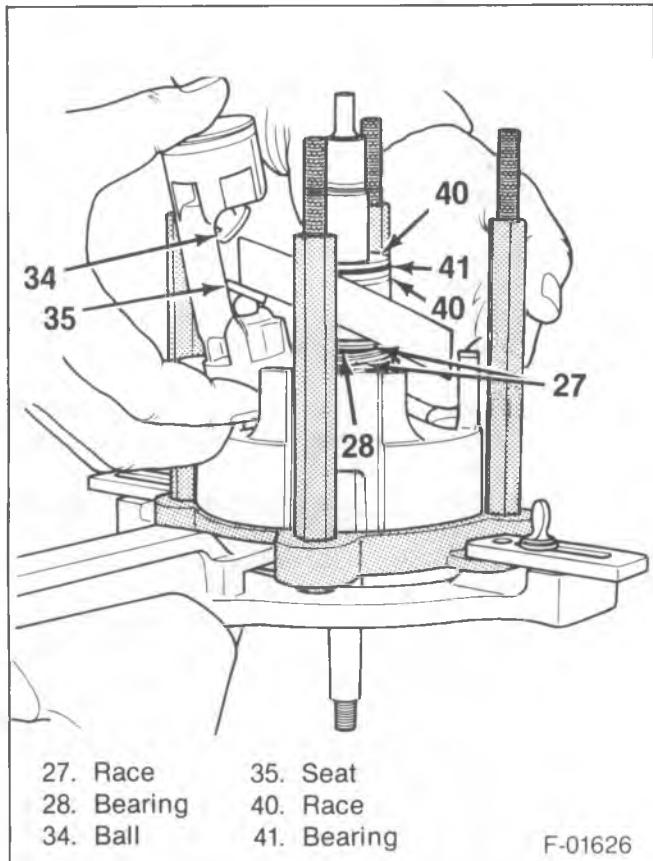

Figure 40—Installing No. 1 Piston
- Support the front half of the cylinder (29) on J 9397.
- 1. Shaft and axial plate (39).
- 2. Balls (34) and shoe discs (35) to the pistons (32).
- 3. Piston assembly (32) into the front cylinder half (29) (figure 40).
- Rotate the axial plate (39) to place the high point above cylinder bore No. 1.